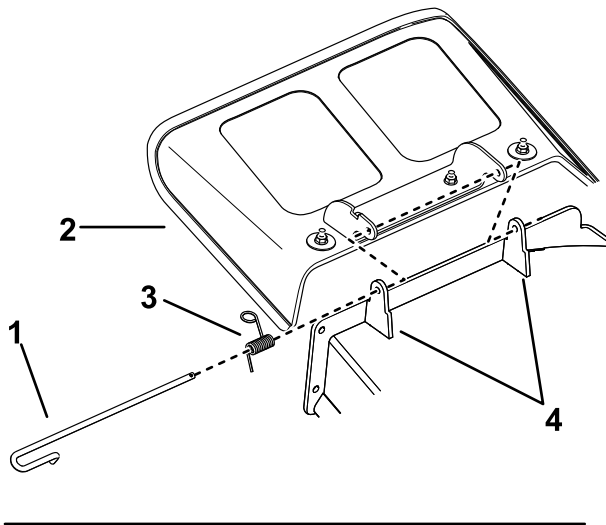

Figure 78
1. Disengage the spring from the notch in the deflector bracket and slide the rod out of the welded deck brackets, spring, and discharge deflector (Figure 78).